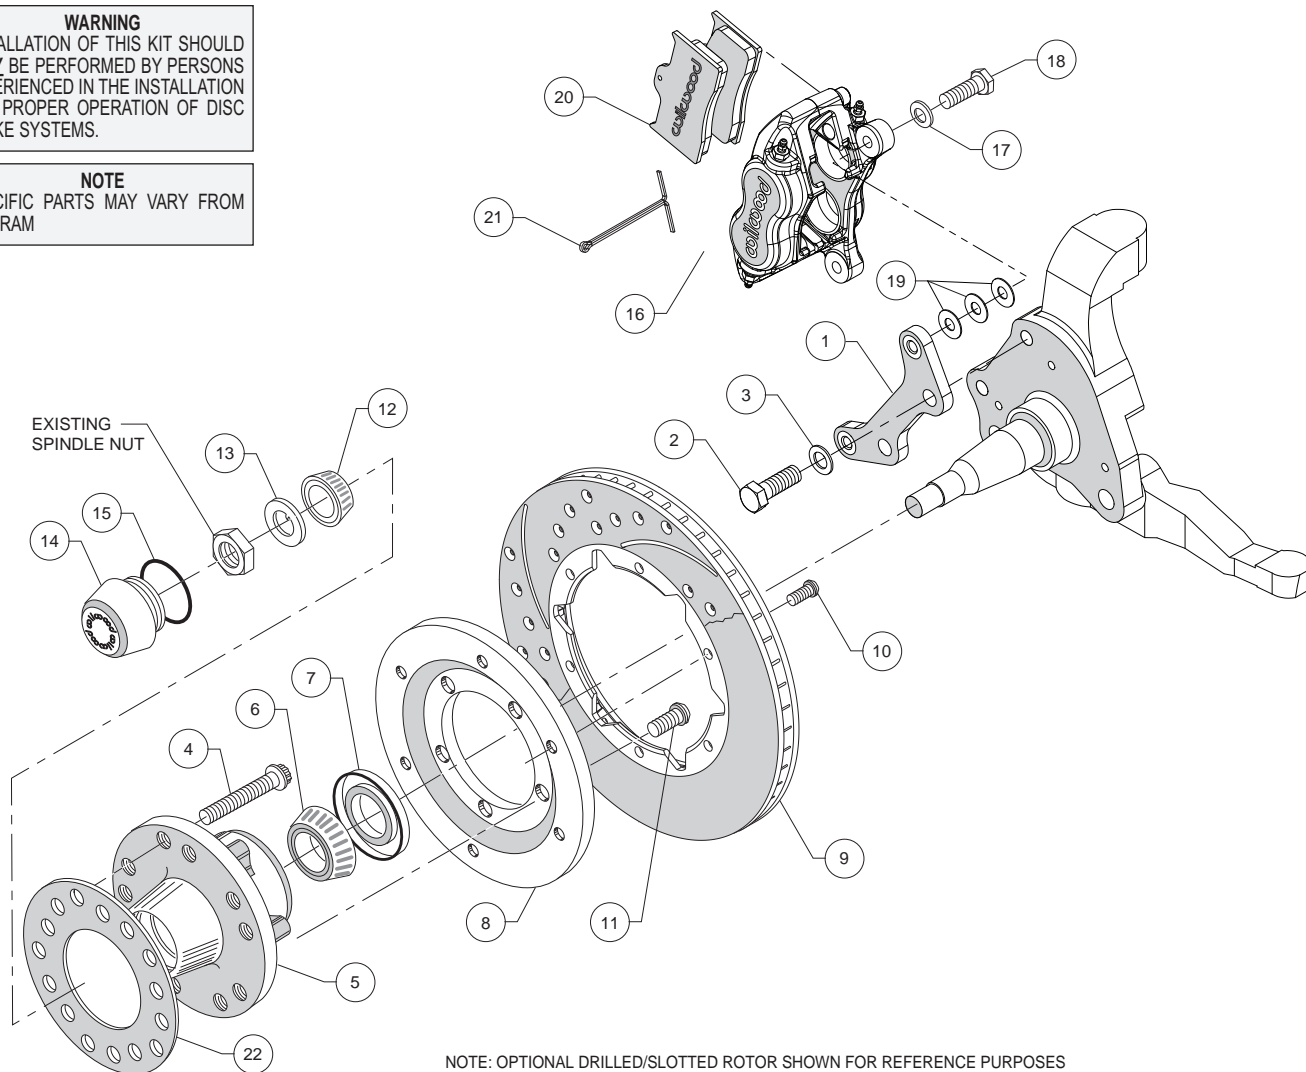

Figure 1. Typical Installation Configuration
Assembly Instructions (numbers in parenthesis refer to the parts list, on the preceding page and Figure 1): **CAUTION:** All mounting bolts must fully engage clinch nuts. Be sure to check that all bolts are either flush or protruding through flanged side of clinch nut after shimming, Figure 3.
- Align caliper mounting bracket (1) with the corresponding holes, to the face of the spindle. Attach using bolts (2), and washers (3), as shown in Figure 1 and Photo 1. Temporarily tighten the mounting bolts. Ensure that the flanged heads of the clinch nuts in the bracket are facing outboard, Photo 1. **NOTE:** The bracket must fit squarely against the mounting points on the spindle. Inspect for interference from casting irregularities, machining ridges, burrs, etc. Remove bolts one at a time, apply red *Loctite*® 271 to threads and torque to 77 ft-lbs.
- Orient the rotor (9) and the rotor adapter (8) as shown in Figure 1 and Photo 4. Attach the rotor to the adapter using bolts (10). Using an alternating sequence, apply red *Loctite*® 271 to the threads, and torque to 25 ft-lb.
- Mount the adapter/rotor assembly (8/9) to the hub (5) using bolts (11), as shown in Figure 1 and Photo 5. Using an alternating sequence, apply red *Loctite*® 271 to the threads, and torque to 45 ft-lb.
- Screw dust cap (14) into hub (5), Photo 7. Friction created by the o-ring (15) on the dust cap keeps it from unscrewing. **NOTE:** The O.D. of the existing OEM spindle washer may be larger than the I.D. of the dust cap not allowing it to seat against the hub face. Therefore, use the spindle washer (13) supplied with the kit instead of the OEM washer.
- NOTE:** Please reference the caution statement at the beginning of the assembly instructions. Mount the caliper (16) onto the caliper mounting bracket (1) using bolts (18) and washers (17), as shown in Figure 1. Initially place three .035" thick shims (19) on each bolt between the caliper and the bracket, Photo 8. Temporarily tighten the mounting bolts and view the rotor (9) through the top opening of the caliper. The rotor should be centered in the caliper, Photo 9. If not, adjust by adding or subtracting shims between the bracket and the caliper. Always use the same amount of shims on each of the two mounting bolts. **NOTE:** The end of each bolt must be flush with or slightly protruding from the head of the clinch nut, as shown in Figure 3. If necessary place spare shims between washer (17) and caliper mounting ear to achieve the proper clinch nut engagement. Once the caliper alignment and clinch nut engagement are correct, remove the bolts one at a time, apply red *Loctite*® 271 to bolt threads, and torque to 40 ft-lb.